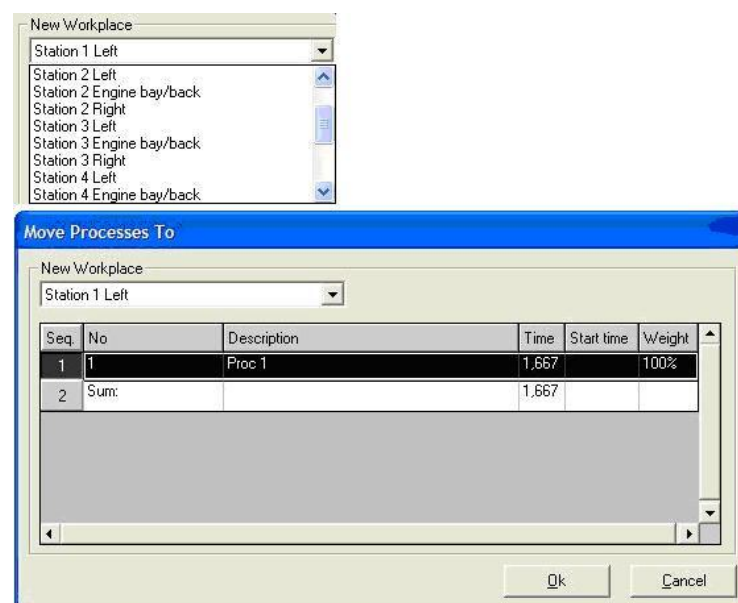

Figure 75: Move Processes to Dialog – Stations Selection List
- 2) To open the dialog, open the popup menu and click **Move Selected Processes To...** Please refer to the Figure 75.